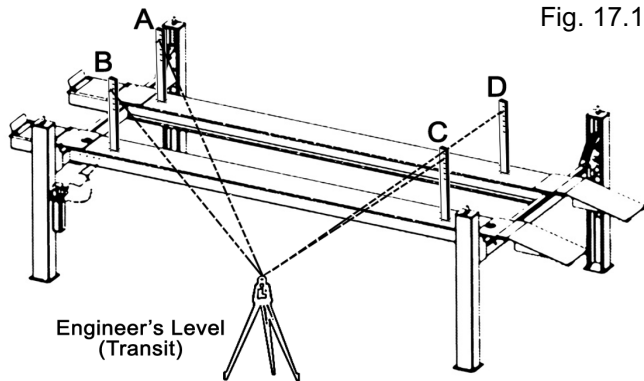

Fig. 17.1
4. Place a Level target on the right/front corner of the runway. (See Fig. 17.1)
5. Beginning with "A" position, sight the level to the target and mark the number or the graduation on the inch scale of the target that aligns to the cross hairs of the Level, (See Fig. 17.1)
6. Next, move the target and place it at point "B" on the runway. (See Fig. 17.1)
8. Adjust the adjustment nut on the safety ladder bar at the top of the column at "B" until the crosshairs of the Level align to reference mark on the target scale. (See Fig. 17.1)
9. Repeat steps locating the target assembly at points "C" and "D" and adjusting safety ladders at each corresponding column until the reference mark on the target scale is on the crosshairs of the Level. The runways are now level at all four points. (See Fig. 17.1)